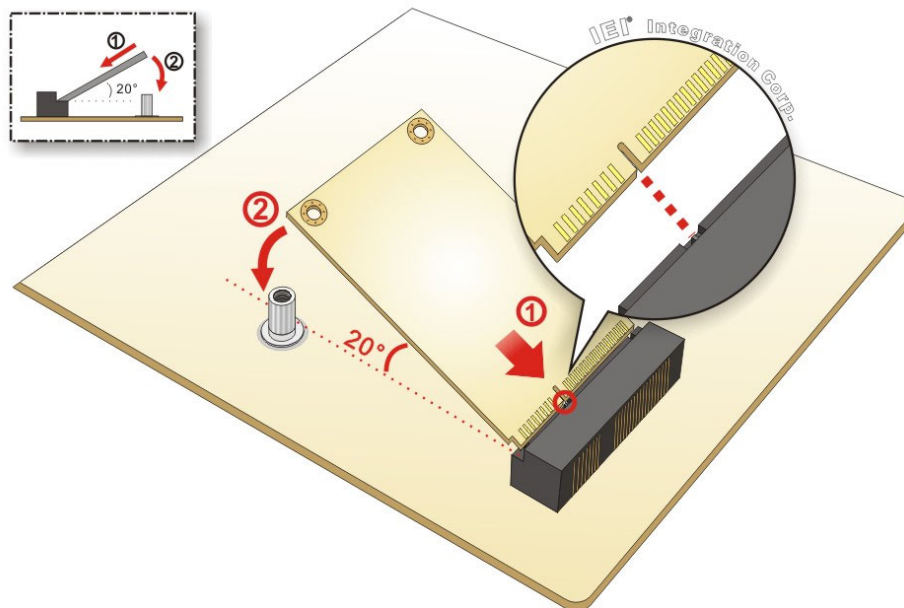

Figure 4-15: Inserting the mSATA Card into the Slot at an Angle
Step 3: Insert into the socket at an angle. Line up the notch on the card with the notch on the slot. Slide the mSATA card into the slot at an angle of about 20° (Figure 4-15).